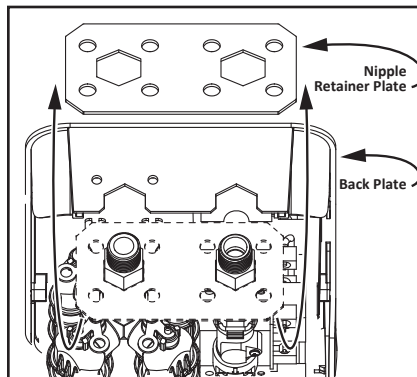

Figure 38 - Nipple retaining plate removal.
- 8** Remove the nipple retaining plate by gently pulling the top of the assembly until the nipple retaining plate has cleared the back plate. Remove the nipple retaining plate and place it out of the way. See Figure 38.
- 2** Install the inlet nipple onto the upper inlet tube and secure in place with the inlet nipple retainer pin previously removed. Insure the retainer pin is fully seated against the body of the inlet nipple. See Figure 38.